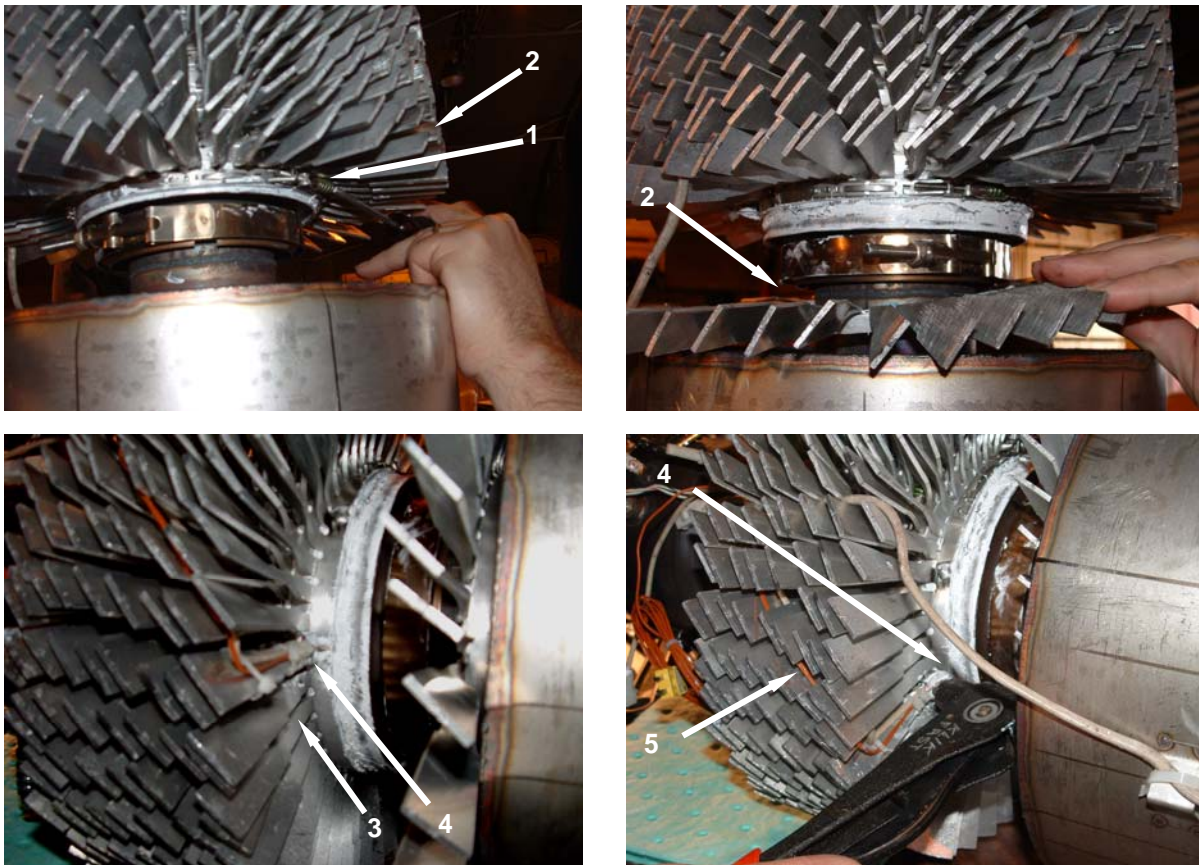

Figure 7. Replace Fin Temperature Sensor – Install Replacement Sensor.
10. Loosen the clamping screw (**Figure 7, Item 1**) retaining the lowest fin ring (**Figure 7, Item 2**), and gently remove the fin ring from the TEG.
11. Locate the holed fin (**Figure 7, Item 3**) adjacent to the fin temperature sensor (**Figure 7, Item 4**).
12. Place the replacement fin temperature sensor (**Figure 7, Item 4**) on the fin (**Figure 7, Item 3**), and retain in place with a rivet.
13. Cut the modular connector from the existing fin temperature sensor (**Figure 7, Item 4**).
14. Route the fin temperature sensor wire (**Figure 7, Item 5**) alongside the existing wire, and retain in place with tie wraps. Trim the excess from the tie wraps after tightening.
15. Install the fin ring (**Figure 7, Item 2**) onto the TEG, making sure that the clamp screw (**Figure 7, Item 1**) is staggered from that on the next ring.
16. Tighten the clamp screw (**Figure 7, Item 1**) to retain the fin ring (**Figure 7, Item 2**) in place by bottoming the clamp screw, then backing it out two turns.